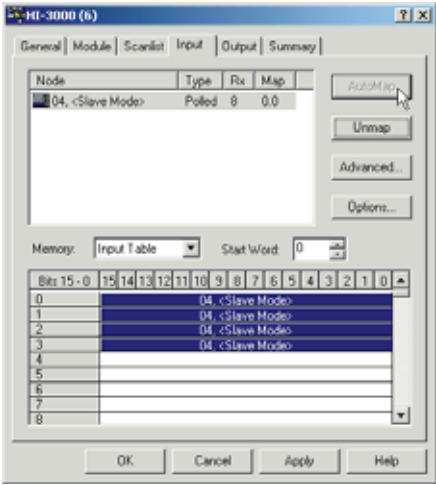

FIG. 123: INPUT PAGE/INPUTS MAPPED
- Step 8. Click on the AutoMap button to Map the Inputs. (See Fig. 123)